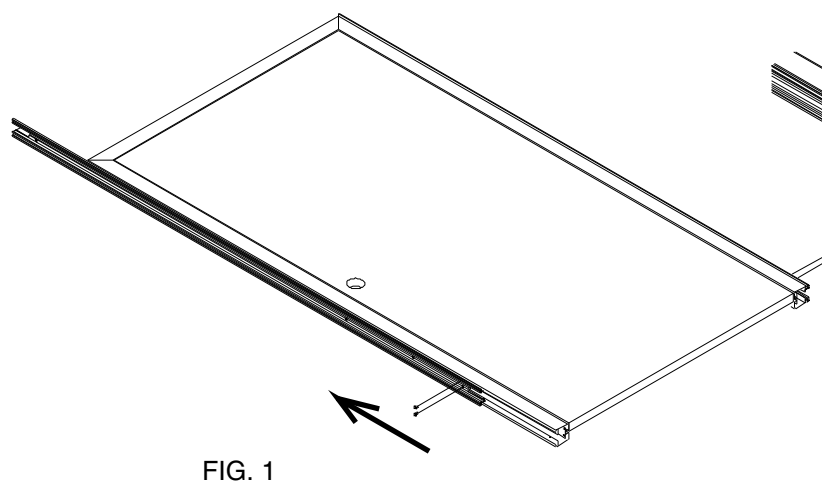

FIG. 1
1. Lay the door frame/door assembly flat on a clean surface, or on the cardboard carton it came in. Remove the (2) torx head screws from each side trimrail, and slide the trimrails about 12" toward the top of the door (Fig. 1).